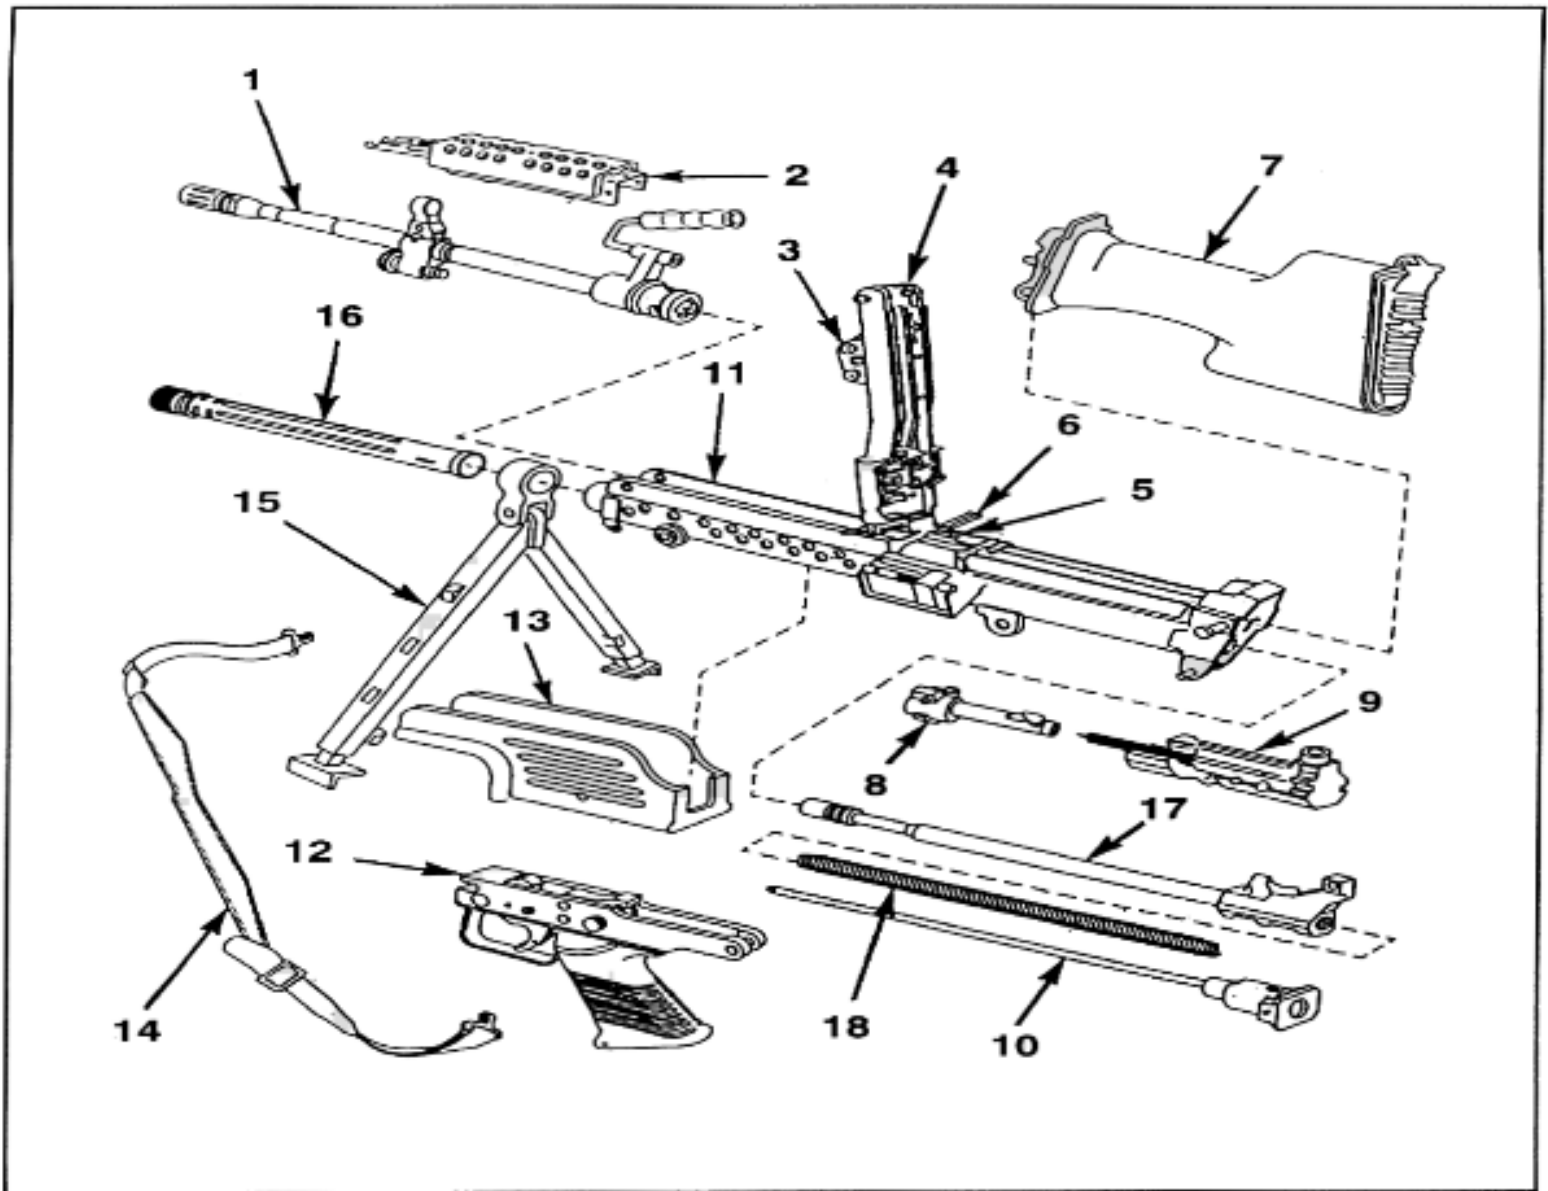
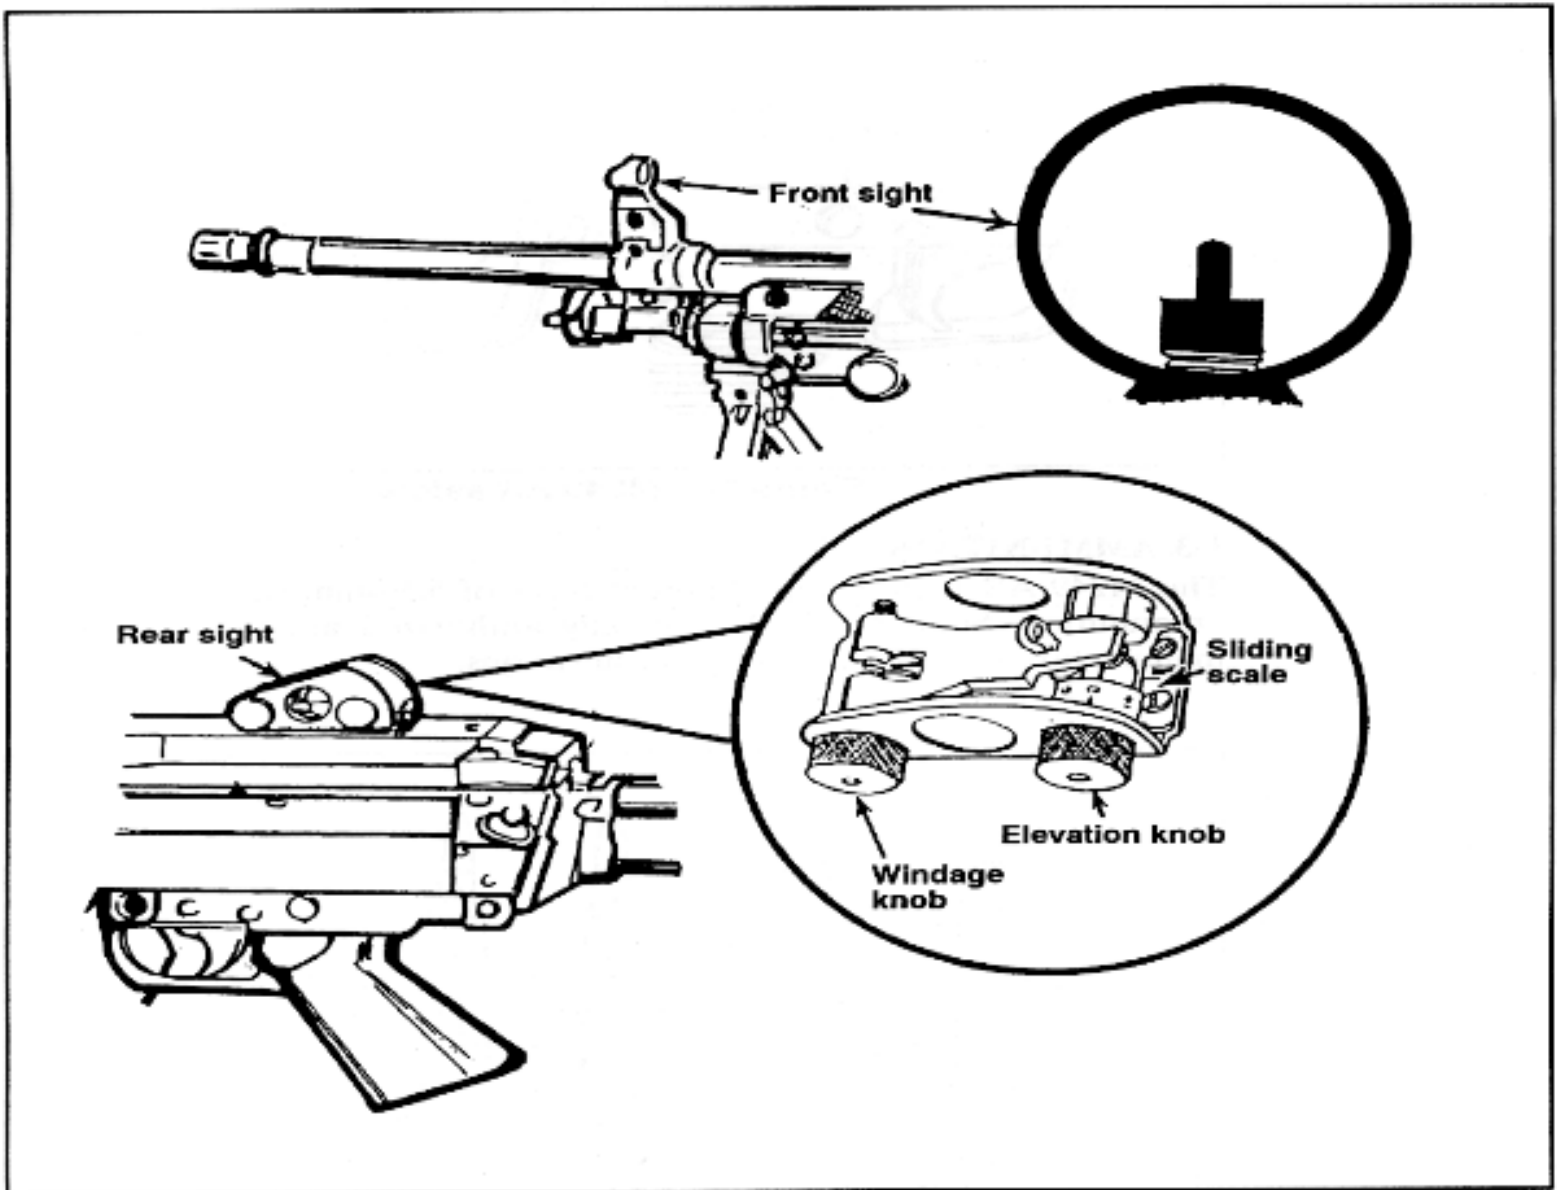

Figure 1-2. M249 AR components.
Figure 1-3. Sights.
The major components of the M249 AR and their purposes are shown in Table 1-1, and Figure 1-2. The sights and safety button are discussed in paragraphs a and b and shown in Figures 1-3 and 1-4, respectively. See Table 1-2, for general data.
Figure 1-2. M249 AR components.
a. **Sights.** The M249 AR has a hooded and semi-fixed front sight (Figure 1-3). The rear sight assembly mounts on the top of the cover and feed mechanism assembly. The elevation knob drum has range settings from 300 meters to 1,000 meters. Range changes are made on the M249 AR sight by rotating the elevation knob to the desired range setting. Rotation of the rear sight aperture (peep sight) is used for fine changes in elevation or range adjustments, such as during zeroing. Each click of the peep sight equals one-half-mil change in elevation, which is .5 cm at 10 meters. The sight adjusts for windage by rotating the windage knob. Each click of windage adjustment also equals a one-half-mil change, which is .5 cm at 10 meters. There is also a windage sliding scale marked with index lines for centering the rear sight aperture.
Figure 1-3. Sights.